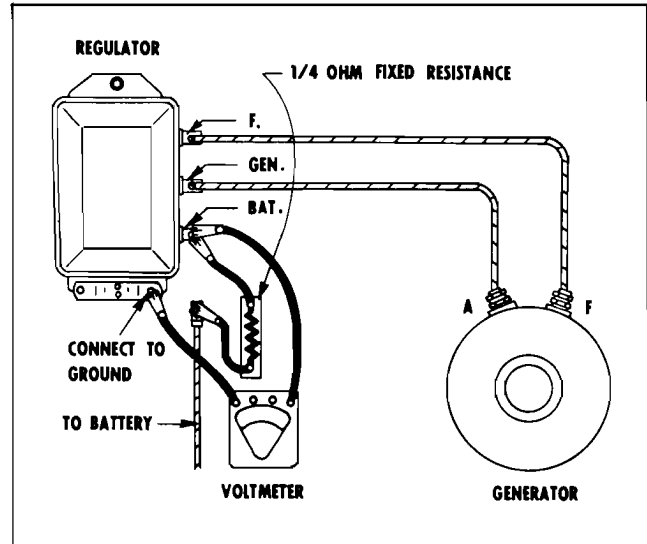

Fig. 11-16 Testing Voltage Regulator
1. Connect a $\frac{1}{4}$ -ohm fixed resistor (approximately 25 watts capacity) into the charging circuit at the "BAT" terminal of the regulator and connect a voltmeter from the "BAT" terminal to ground (Fig. 11-16).